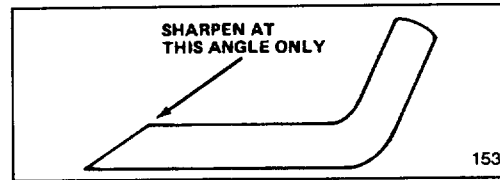

Figure 28
6. **SHARPENING BLADE**—Using a file, sharpen top side of blade and maintain original cutting angle (Fig. 28). The blade will remain balanced if same amount of material is removed from both cutting edges.